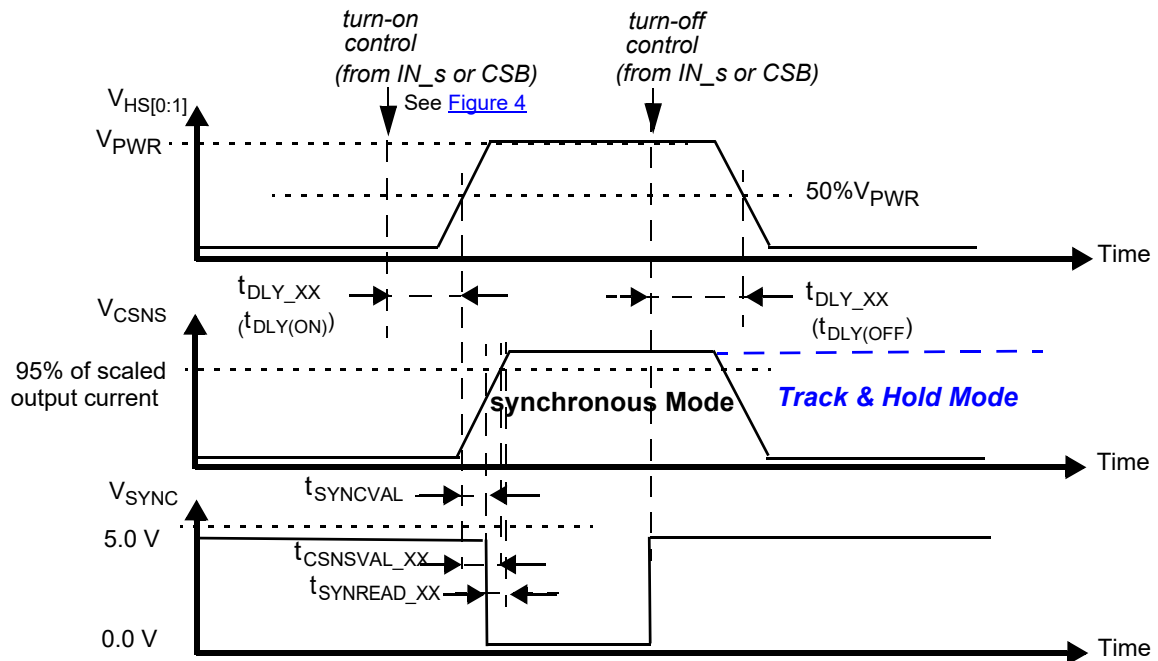

Figure 9. Synchronous and track-and-hold current sensing modes: associated delay and settling time
29. Time required to switch off the channel after detection of overtemperature (OT), overcurrent (OC), SC or UV error (time measured between start of the negative edge on the FSB pin and the falling edge on the output voltage until  $V(\text{HS}[0:1]) = 50\%$  of  $V_{PWR}$ ).
30. Settling time ( $= t_{\text{CSNSVAL\_XX}}$ ), SYNC output signal delay ( $= t_{\text{SYNCVAL\_XX}}$ ) and Read-out delay ( $= t_{\text{SYNREAD\_XX}}$ ) are defined for a stepped load current ( $100\text{ mA} < I(\text{LOAD}) < I_{\text{OCLX A FOR CSNS\_RATIO\_S}} = 1$ , AND  $300\text{ mA} < I(\text{LOAD}) < I_{\text{OCLX A\_0 FOR CSNS\_RATIO\_S}} = 0$ ). See Figure 9 and Output current monitoring \(CSNS\).
The CS pin allows independent current monitoring of channel 0 or channel 1 up to the steady-state overcurrent threshold. It can also be used to sense the device temperature. The different functions are selected by setting bits CSNS1\_en and CSNS0\_en to the appropriate value (Table 23). When the CSNS pin is sensed during switch-off in the (optional) Track & Hold mode (see Figure 9), it outputs the scaled value of the load current as it was just before turn-Off. When several devices share the same pull-down resistor, the CSNS pins of devices the current of which is not monitored must be tri-stated. This is accomplished by setting CSNS0\_en = 0 and CSNS1\_en = 0 in the GCR register (Table 10). Settling time ( $t_{CSNSVAL\_XX}$ ) is defined as the time between the instant at the middle of the output voltage's rising edge ( $HS[0:1] = 50\%$  of  $V_{PWR}$ ), and the instant at which the voltage on the CSNS-pin has settled to  $\pm 5.0\%$  of its final value. Anytime an overcurrent window is active, the CSNS pin is disabled (see Overcurrent detection on resistive and inductive loads). The current and temperature sensing functions are unavailable in Fail-safe mode and in Normal mode when operating without the  $V_{DD}$  supply voltage. In order to generate a voltage output, a pull-down resistor is required ( $R(CSNS)=1.0\text{ k}\Omega$  typ. and  $470 < R(CSNS) < 10\text{ k}$ ). When the current sense resistor connected to the CSNS pin is disconnected, the CSNS voltage is clamped to  $V_{CL(CSNS)}$ . The CSNS pin can source currents up to about 5.6 mA.
To synchronize current sensing with an external process, the SYNC signal can be connected to a digital input of an external MCU. SYNC is asserted logic low when the current sense signal is accurate and ready to be read. The current sense signal on the CSNS pin has the specified accuracy  $t_{SYNREAD\_XX}$  seconds after the falling edge on the SYNC pin (Figure 9) and remains valid until a rising edge is generated. The rising edge that is generated by the SYNC pin at the turn-OFF instant (internal or external) may also be used to implement synchronization with the external MCU. Parameter  $t_{SYNVAL\_XX}$  is defined as the time between the instant at the middle of the output-voltage rising edge ( $HS[0:1] = 50\%$  of  $V_{PWR}$ ), and the instant at which the voltage on the SYNC-pin drops below 0.4 V ( $V_{SOL}$ ). The SYNC pins of different devices can be connected together to save  $\mu$ -controller input channels. However, in this configuration, the CSNS function of only one device should be active at a time. Otherwise, the MCU does not determine the origin of the SYNC signal. The SYNC pin is open drain and requires an external pull-up resistor to VDD.